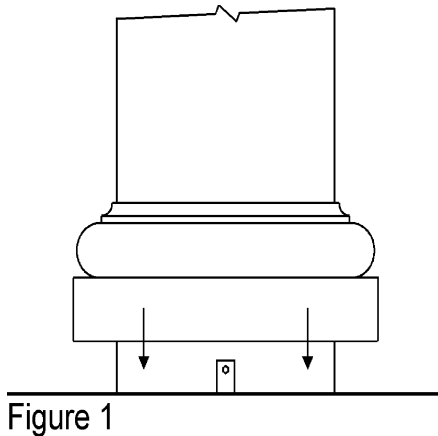

Figure 1
3. SLIP ONE-PIECE CAP AND BASE ONTO COLUMN SHAFT (SEE FIGURE 1). THE TWO-PIECE CAP AND BASE ARE ATTACHED AFTER THE SHAFT IS INSTALLED. IF THIS COLUMN IS INSTALLED WHERE IT COULD COLLECT WATER OR DEBRIS, THE TOP OF THE COLUMN AND CAP MUST BE FLASHED (COVERED) TO PREVENT SUCH COLLECTION. USE LEAD, COPPER, ALUMINUM, GALVANIZED, ETC. FLASHING CUT SLIGHTLY LARGER THAN THE CAP, AND FOLD THE EDGES DOWN OVER THE CAP AFTER STEP 5. IT IS NOT PERMISSIBLE AT ANY TIME TO FILL THE INTERIOR OF THE COLUMN SHAFT WITH SAND, CONCRETE OR ANY OTHER MATERIAL.